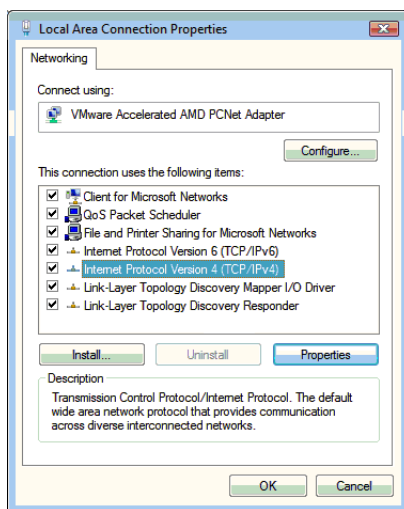

Figure 7-1 Local Area Connection Properties
3. Right-click on the Local Area Connection icon and select the Properties option. After you provide permission to continue, the PC displays the Local Area Connection Properties window (Figure 7-1).